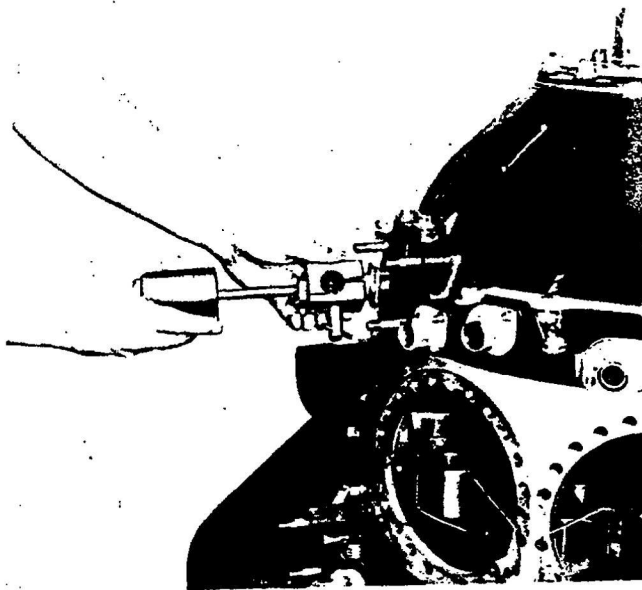

Figure 40—Removing Tight Fitting Valve Tappet Guide
(3) Remove the loose-fitting valve tappet ball socket and mating spring, turning the crankshaft, if necessary, to push the tappet into reach. Remove the palnuts, nuts, and washers from the two tappet guide attaching studs and withdraw the tappet and guide assembly from the crankcase front section. If the guide cannot be removed by hand, attach the tappet guide puller. See figure 40. This consists of a rod which clamps to the bead on the tappet guide. A weight slides along the rod to provide the necessary inertia for removing the guide. Remove the gasket under the guide flange.
(4) The tappet and guide assembly may be separated by inserting the hooked end of the valve tappet circlet removing tool under the retaining circlet to effect its removal. *Do not attempt to make the circlet jump out of its groove by striking the hollow end of*